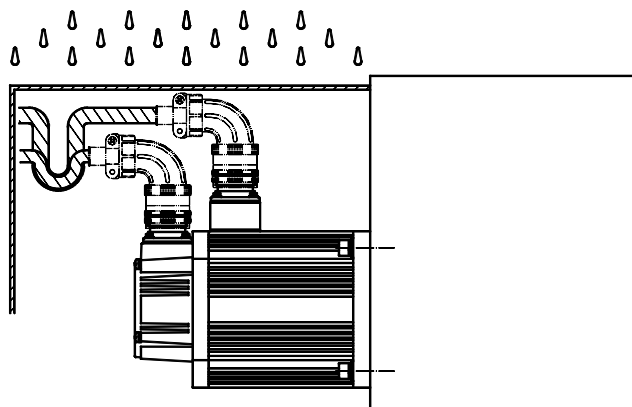

Fig. 7
9.4 Because of the motor structure, when the connector should be put upside, the protection measure should be taken, which is shown as figure 7.